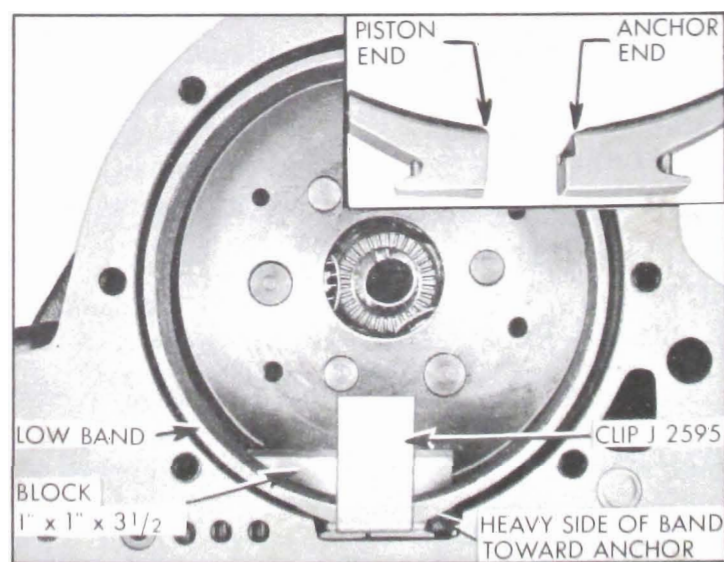

Figure 5-93—Installation of Low Band and Struts
2. With the assembly standing on end of rear bearing retainer, install a wooden block (1"x2"x3 1/2") as shown in figure 5-93. Set both low band struts in position on block, with plain ends engaging strut shoulder of operating lever and groove in anchor shaft and with notched ends together and about 3/16" from wall of case. Spread struts as far apart as possible.
3. Compress ends of low band with Band Installing Clip J 2595 (fig. 5-93).